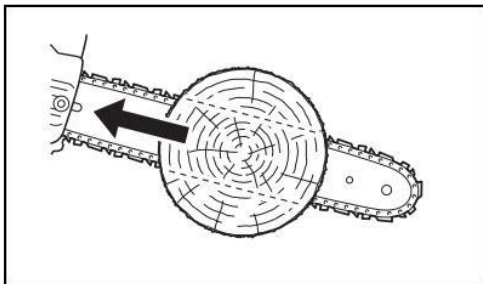

Fig 2
- Either or these reactions may cause you to lose control of the saw and come in contact with the moving chain, which could result in serious personal injury. As a chainsaw user, you should take several steps to keep your cutting jobs free from accident or injury (Fig 2).